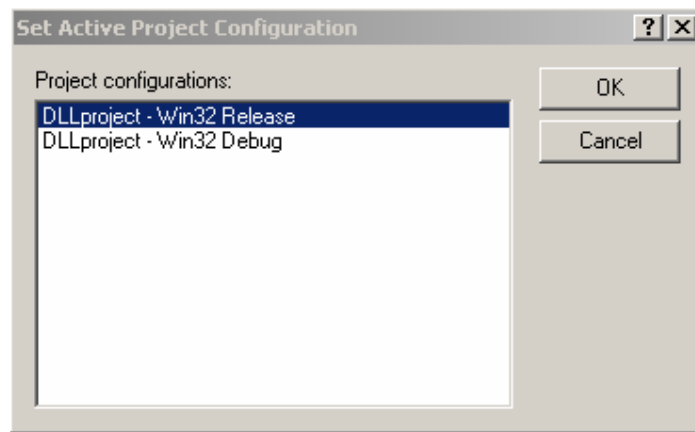

Figure 12: Set active project configuration
21. Go to Build/Set Active Configuration... in the menus and select "DLLProject – Win32 Release" (figure 12) and click on OK.